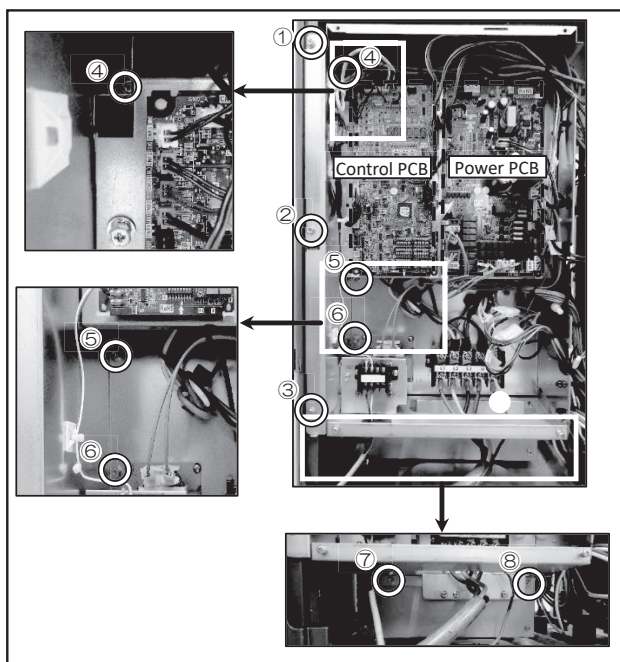

Fig.8 Open the inverter layer
(1) Remove 8 plate fixing screws. (○mark①-⑧, Fig.8)
(2) Open the inverter layer.
(b) Tighten 8 plate fixing screws. (○mark, Fig.8)